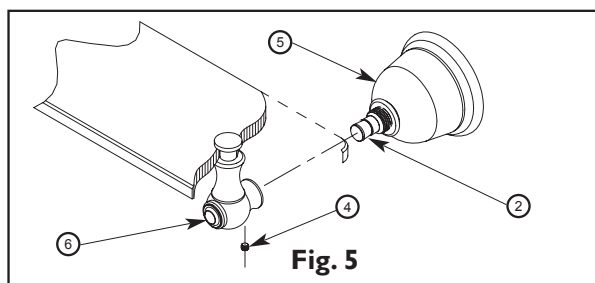

Fig. 5
6. Attach GLASS SHELF END POSTS (6) to FLANGE POSTS (2) against ESCUTCHEON (5). Secure into place with SETSCREWS (4). (See Fig. 5)